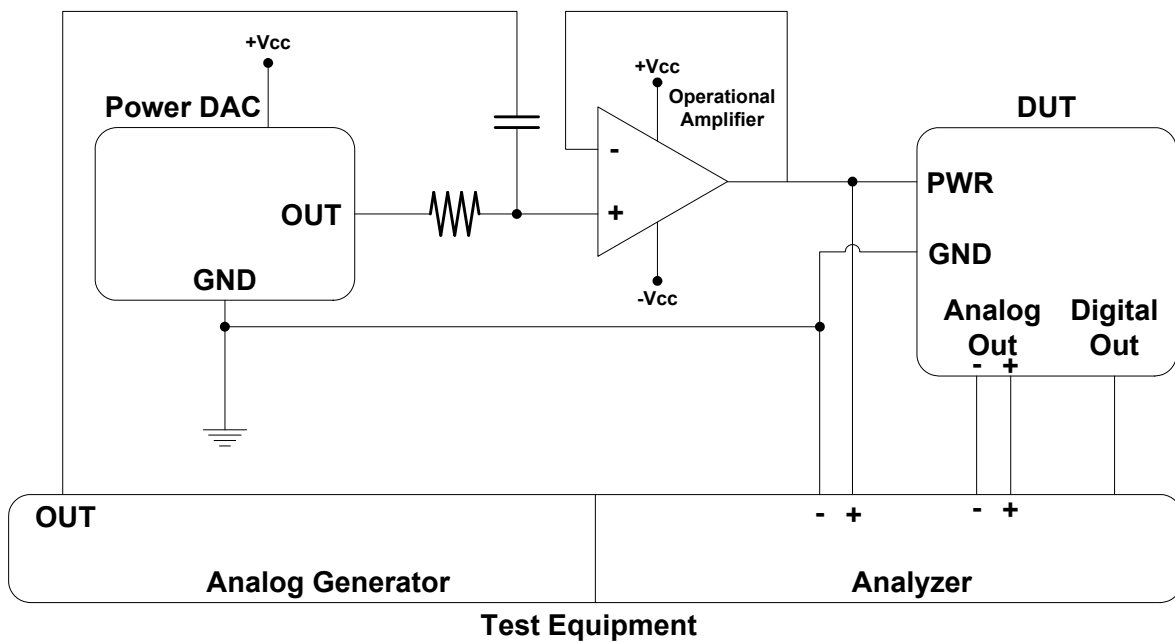

Figure 4. PSRR Test Configuration
15. Valid with the recommended capacitor values on FILT+ and VQ. See Figure 4 for test configuration.
22. Valid with the recommended capacitor values on FILT+ and VQ. See Figure 4 for test configuration.